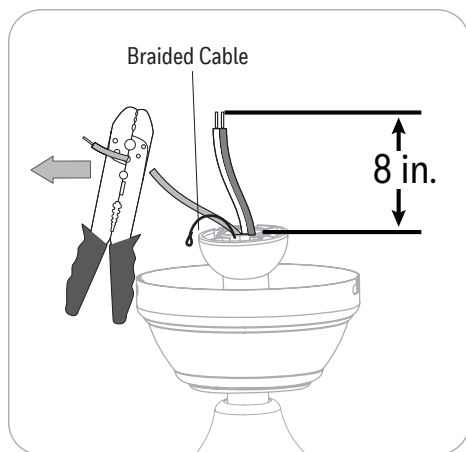

Figure 2.7
7. Depending on the length of downrod you use, you may want to cut the fan wires to simplify wiring. After pulling the wires all the way through the downrod, measure 8 inches of wire. Cut off the excess wire using wire cutters (not included). **Warning:** Do NOT cut braided cable. Then strip 1/2 inch of insulation from the end of each wire strand (Figure 2.7).